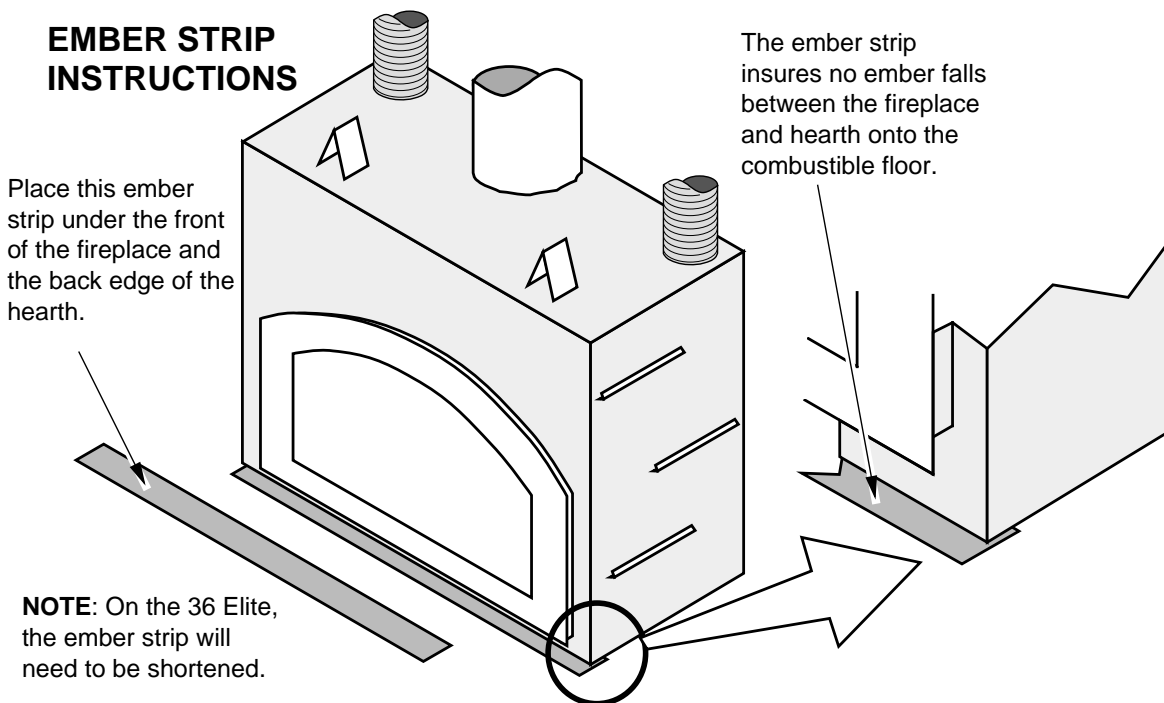

Figure 11
- Place the ember strip included with the fireplace below the front edge of the fireplace (see Figure 11).